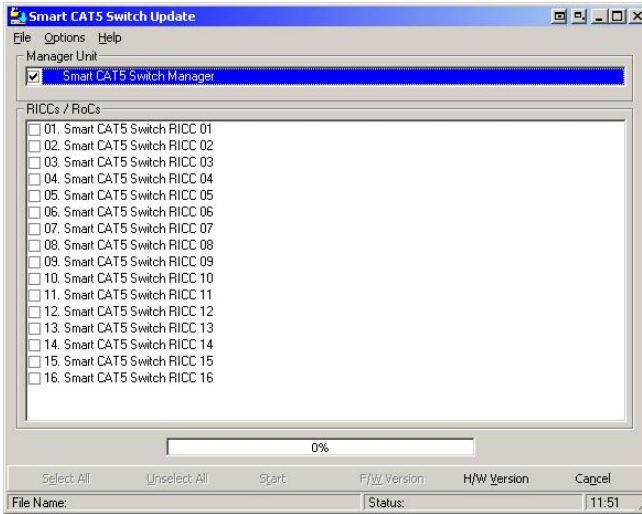

Figure 33 Update window
1. Start the Update software by double-clicking the icon on your desktop , or choose Start/Programs/Smart CAT5 Switch Update/ Smart CAT5 Switch Update. The Smart CAT5 Switch Update window appears. See Figure 33. Where the ROCs do not appear, select Options/Get RICCs.
1. In the Update window, check the Manager Unit. See Figure 33.
Note! If the status of the device is busy - see the bottom of Figure 33 - the system cannot be upgraded. To free the device choose Options/Advanced/Reset. The device resets and the status is now free. Click **Start**.